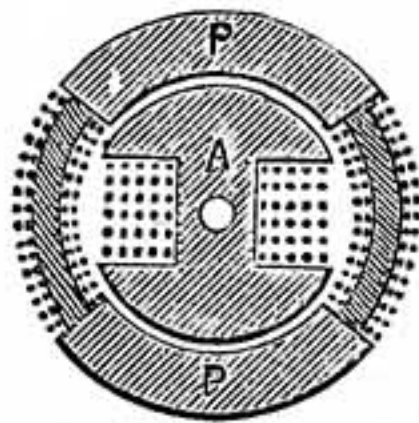
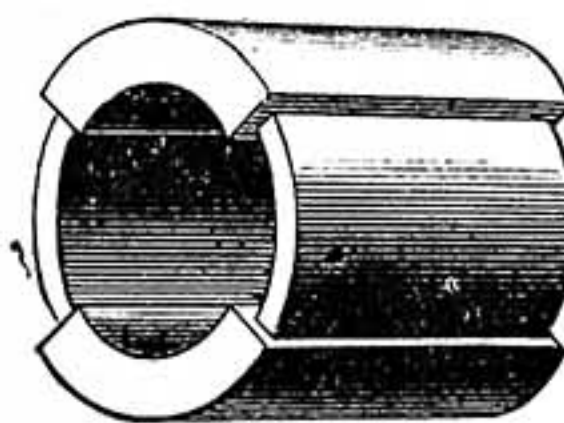

Fig. 1.
Fig. 2.
Field of a Griscom Electro-Motor.—A. F. (Clapham).—I give an illustration of the field-magnets and pole-pieces of the Griscom electro-motor. The fields and pole-pieces form a closed ring of soft iron (as shown at Fig. 2). The semi-circular cores are wound with wire (as shown at Fig. 1) in such a manner as to form a south pole of one of the pole-pieces (P), and a north pole of the other. This is ensured by winding both in one direction. You will see that the armature is of the
Field of a Griscom Electro-Motor. Fig. 1.—Section through Field and Armature of a Griscom Electro-Motor—A, Armature; P, P, Pole-Pieces. Fig. 2.—Field of a Griscom Motor.